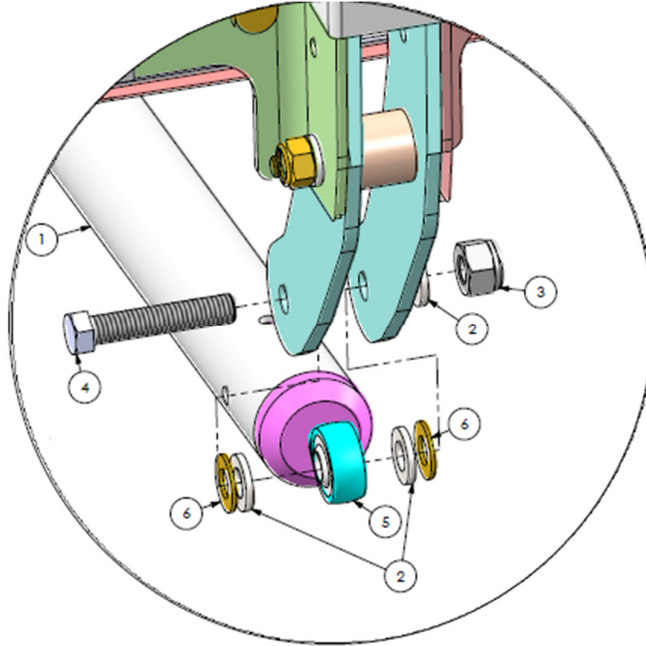

Figure 22: Detail G
- Step 13. Remove the AN4 locknut (3) and bolt (4), shown in Figure 22.
- Step 14. Replace the *noncompliant* eyebolt (5) with either a *type 1* or *type 2*.
Step 15. Reassemble the eyebolt assembly as seen in Figure 22.